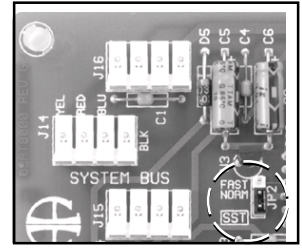

Figure 33. The “SST jumper switch” on the 980A.
- If your system is all new, proceed to step 4. If some or all of your system is older (software version earlier than 3.2) the SST jumper switch on the 980 module must be in the FAST pin position (Figure 33). The factory position for the jumper is “NORM.” The SST jumper on the Model 980EZ must be cut and re-soldered to change its position. (The software version you have can be easily identified by the label on the large “chip” on each main switching module; all AccessEZ™ products are version 3.3 or higher).